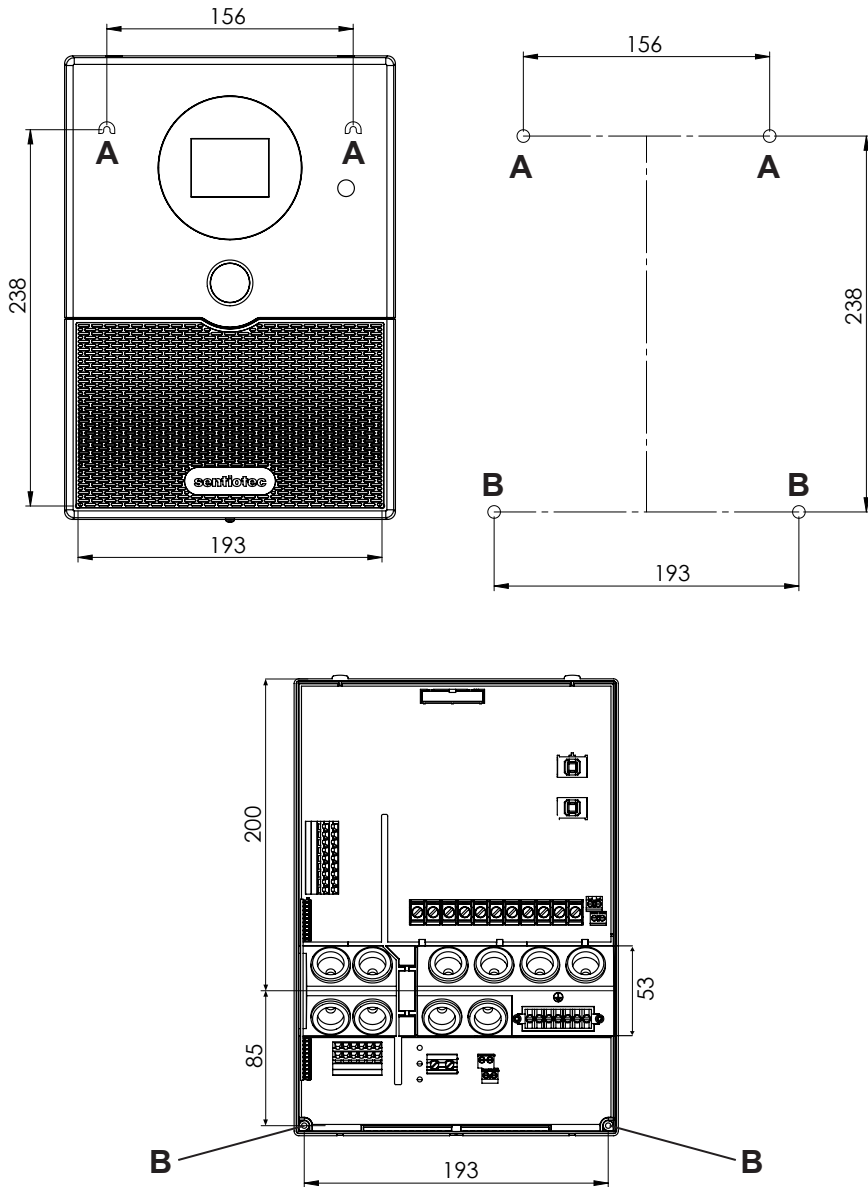

Fig. 1 Position of the attachment device and the installation holes (dimensions in mm)
1. Screw two chipboard screws (3 x 25 mm) into the wall of the sauna at a height of approx. 1.70 m and leaving a protruding length of 7 mm. The two screws must be placed at a distance of 156 mm from each other (see **Fig. 1**).
4. Fasten the sauna control unit onto the cross-head screws using attachment device **A** as an aid (see **Fig. 1**).
5. Screw two chipboard screws (3 x 25 mm) into the lower fastening holes **B** (see **Fig. 1**).